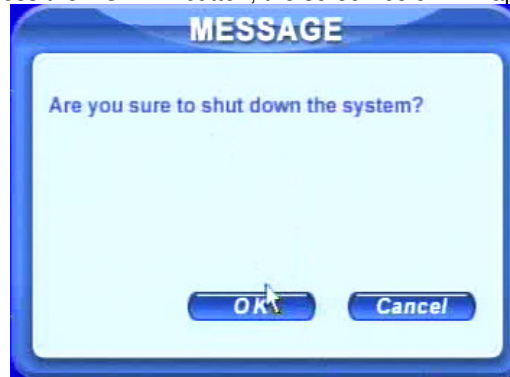

Fig 3.3 Shut down
STEP2 Click the Shut down button, refer to Fig 3.3 Shut down